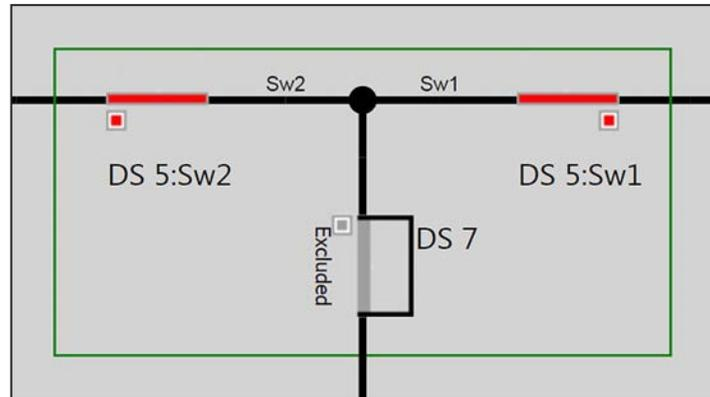

Figure 54. Three-switch pad-mount configuration, with a normally closed non-team manual switch.
**STEP 3.** If there is a third manual switch, add it as a switch on the line and then use the **Exclude/Include** button to convert it to a non-team closed manual switch, or use the **Exclude/Include Open** button to convert it to a non-team open manual switch. See Figures 54 and 55.